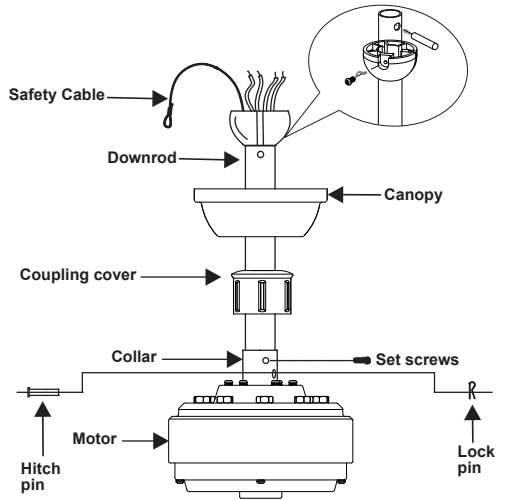

Fig.6
Step 4. Route wires and safety cable exiting from the top of the fan motor through coupling cover, the canopy and then through the ball / downrod.(Fig.6)
Step 5. Align the holes at the bottom of the downrod with the holes in the collar on top of the motor housing. Carefully insert the hitch pin through the holes in the collar and downrod. Be careful not to jam the pin against the wiring inside the downrod. Insert the locking pin through the hole near the end of the hitch pin until it snaps into its locked position.(Fig.6)